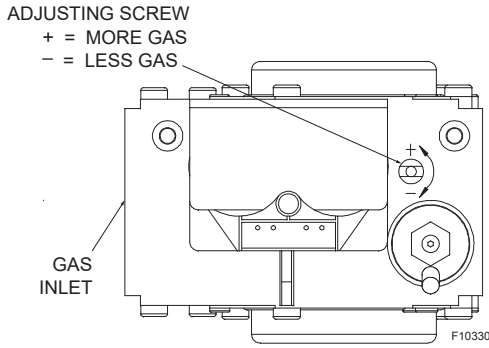

Figure 41. Gas Valve
2. To increase the manifold pressure and increase the ratio of fuel to air turn the adjustment screw counterclockwise (toward the +) (See **Figure 41**). For example, a reading of -2.0" WC (-0.5 kPa) can be increased to -1.5" WC (-0.4 kPa) by turning the adjustment screw counterclockwise. Increasing manifold pressure will increase the CO₂ percentage in the flue gases.
3. To decrease the manifold pressure and decrease the ratio of fuel to air turn the adjustment screw clockwise (toward the -) (See **Figure 41**). Decreasing manifold pressure will reduce the CO₂ percentage in the flue gases.